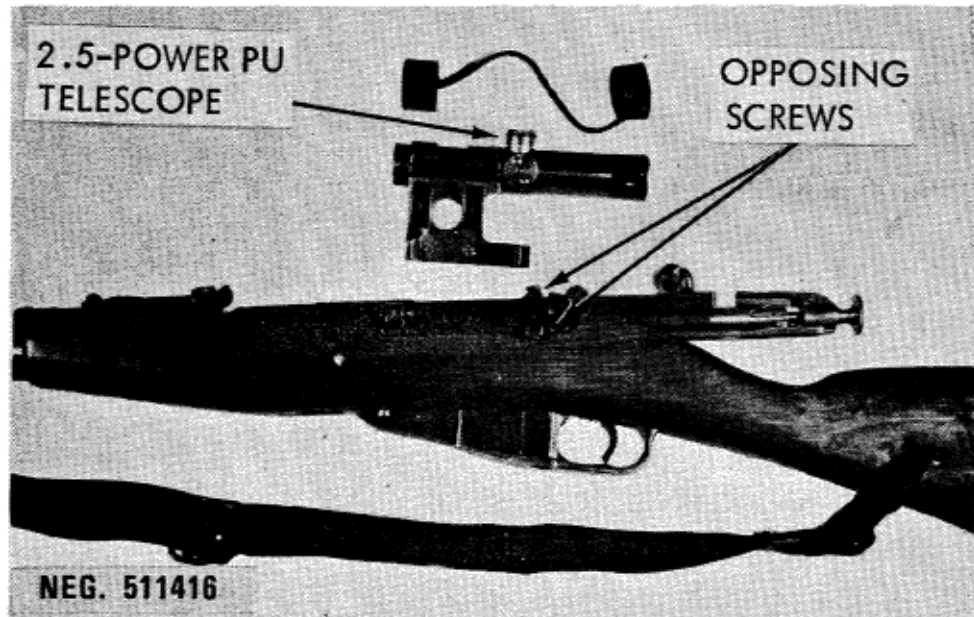

Figure 117. Zero adjustment for PU telescope.
b. The PU telescope can be zeroed to the rifle by means of adjustment screws in the mount. Elevation zero is accomplished by alternately loosening and tightening the vertical opposing screws (fig 117) near the lock screw. Windage zero is accomplished by adjusting the screw in the upper mount that bears against the lower mount; this determines how close to the receiver the rear end of the mount can move.